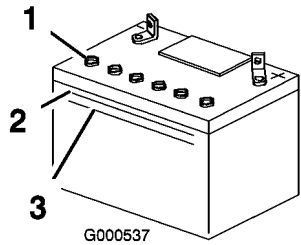

Figure 40
1. Look at the side of the battery. The electrolyte must be up to the **upper** line (Figure 40).
Do not allow the electrolyte to fall below the Lower line (Figure 40).
3. Remove the vent caps from the battery (Figure 40).
4. Slowly pour distilled water into each battery cell until the electrolyte level is up to the Upper line (Figure 40) on the battery case.
5. Wait five to ten minutes after filling the battery cells. Add distilled water, if necessary, until the electrolyte level is up to the Upper line (Figure 40) on the battery case.